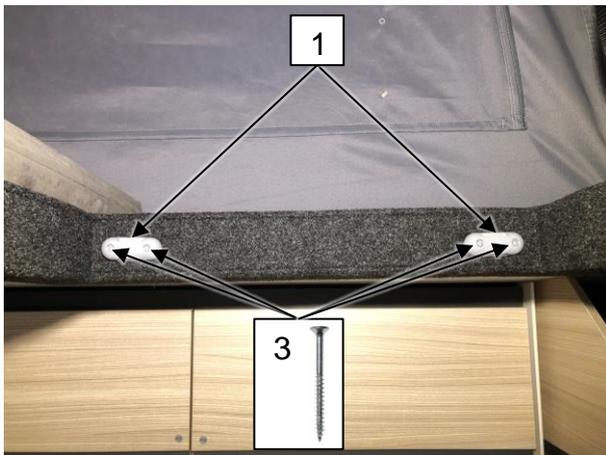

Abb. 9-1: Mounting the hooks in the vehicle
- Fasten the two retaining brackets (see Abb. 9-1,1) for the ladder (2) in the side wall of the roof cut-out with two screws (chipboard screw countersunk 4.5x50, 3).
- Hook the ladder into the bracket at the top and place it on the bottom of the vehicle (2).